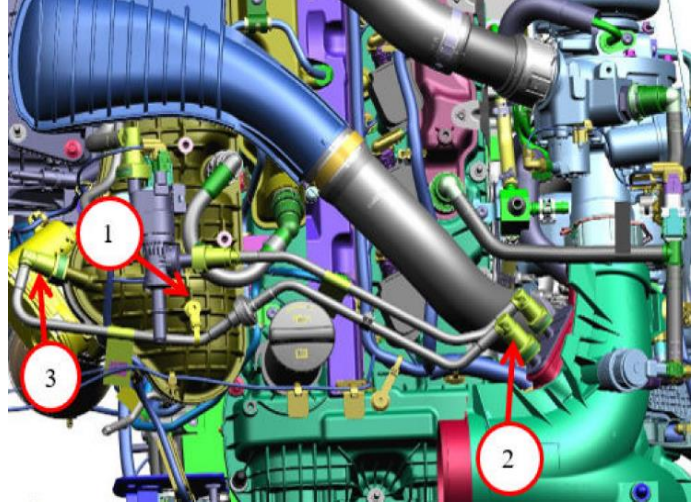

Figure 3 – Purge Hose
4. Remove the tree clip (1) (Figure 3).
5. Disconnect the canister purge hose quick connect at the Ejector-T (2) (Figure 3).
6. Disconnect canister purge tube quick-connect at the intake manifold (3) (Figure 3).
9. Connect the purge hose quick connect at the intake (3) (Figure 3).
10. Connect the purge hose quick connect at the Ejector-T (2) (Figure 3).
11. Push in the tree clip (1) (Figure 3).